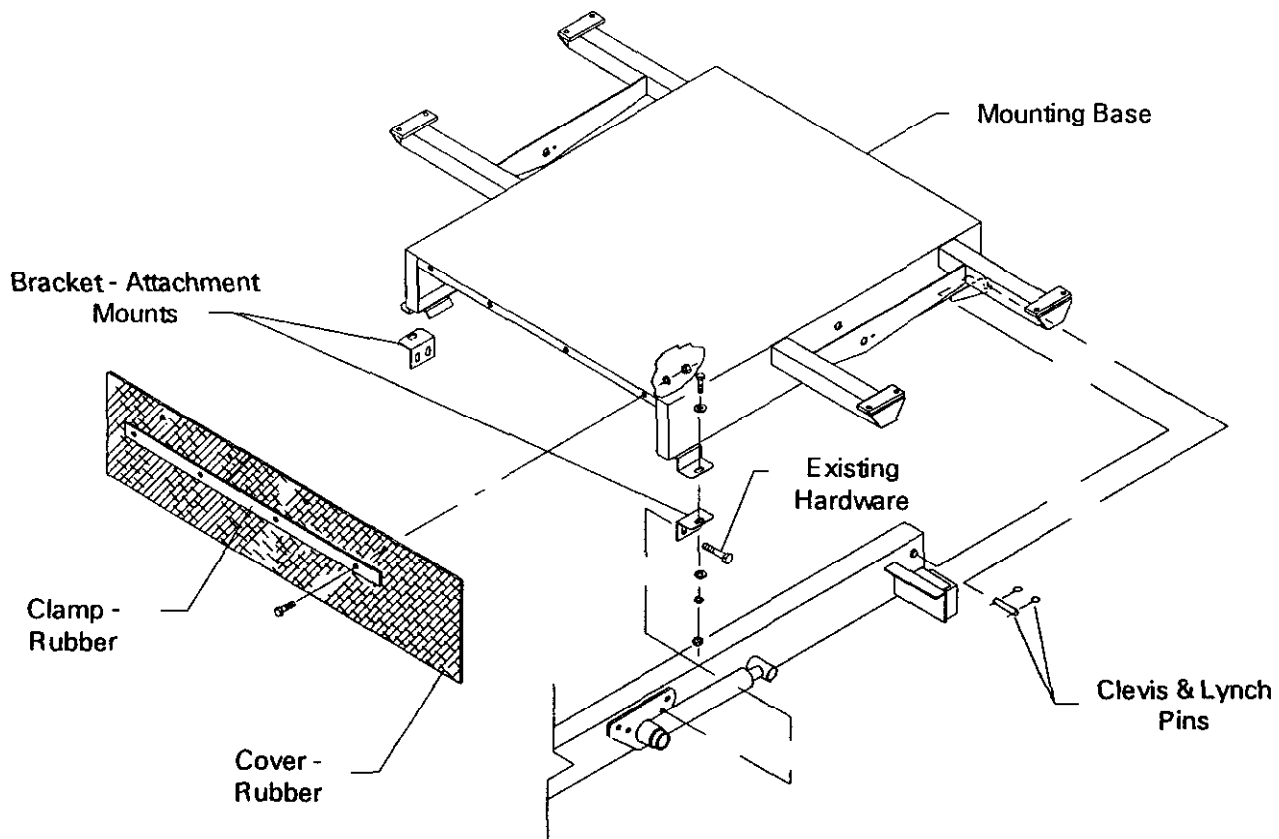

Figure 1
## ATTACHING TOPDRESSER BASE TO WORKMAN (Fig. 1 & 1A)
1. Attach both Bracket Attachment Mounts (92-2667) to both sides of the Workman as shown in Fig. 1. Attach with bolts and nuts already in the frame but do not tighten.
2. Set the Mounting Base (92-4351) of the topdresser on the Workman as shown in Fig. 1 or 1A.
5. Attach the Rubber Cover to the front of the base using the Clamp-Rubber as shown in Fig. 1. Secure using the 1/4" x 1" bolts.